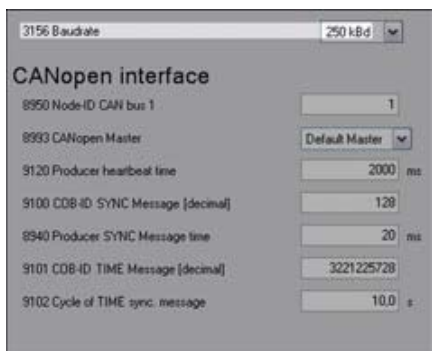

Fig. 210: Baud rate configuration (example ToolKit)
1. In ToolKit configure the baud rate as shown in (Fig. 210).